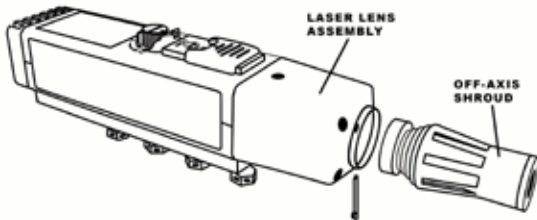

Figure 1-7. Laser Lens and Off Axis Shroud
1.4.1.5 Laser Shroud. A replaceable protective shroud extending approximately 1-3/4 in (4.45 cm) beyond the laser lens assembly provides physical protection, reduces the off axis viewing angle to 18°, and eliminates laser splash reflecting off the aircraft surfaces. The laser shroud is removable/replaceable by the operator should the sapphire window be scratched or unable to be cleaned. This will maintain the beam quality of the laser, see Figure 1-7.
1.5.3.1 Laser Lens Assembly. The laser lens assembly consists of a lens that focuses the beam to 0.5 mR beam divergence. (See Figure 1-7).
1.5.3.2 Off Axis Shroud. The protective off axis shroud extends approximately 1-3/4 in (4.45 cm) beyond the laser lens assembly and provides physical protection for the laser lens, reduces the viewing angle to 18° off axis, and eliminates laser splash reflecting off the aircraft surfaces. (See Figure 1-7). The off axis shroud contains a sapphire glass window that protects the laser and makes cleaning easier. Should the window become scratched or pitted, the shroud should be replaced to maintain beam quality.